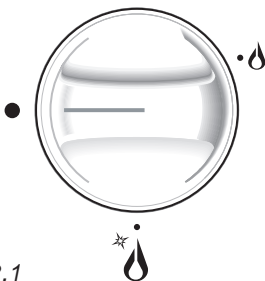
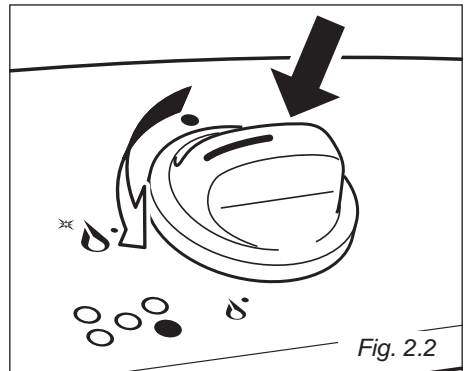
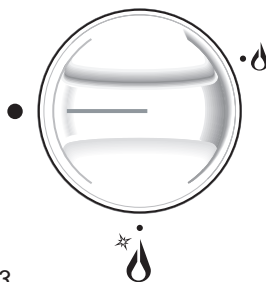

Fig. 2.1
Fig. 2.2
Fig. 2.3
Gas flow to the burners is adjusted by turning the knobs (illustrated in fig. 2.1 - 2.3) which control the valves.
1. Press in the corresponding knob and turn counter-clockwise (fig. 2.2) to the full flame position marked by the “” symbol (fig. 2.1); hold the knob in until the flame has been lit.
1. Press in the corresponding knob and turn counter-clockwise (fig. 2.2) to the full flame position marked by the “” symbol (fig. 2.3); hold the knob in until the flame has been lit.